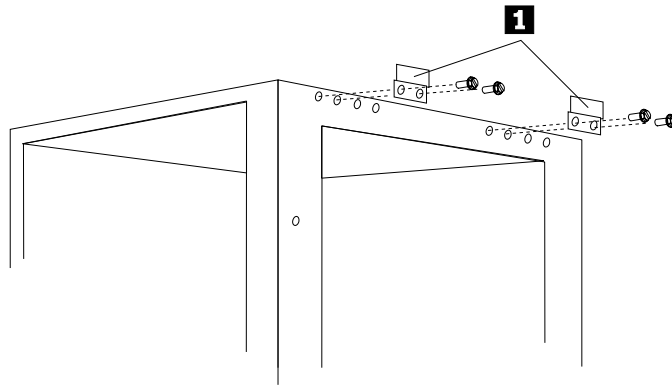

Figure 16. Installing the side-panel hanger-brackets
9. Attach the two side-panel hanger-brackets using the rear pairs of holes as shown in Figure 16.